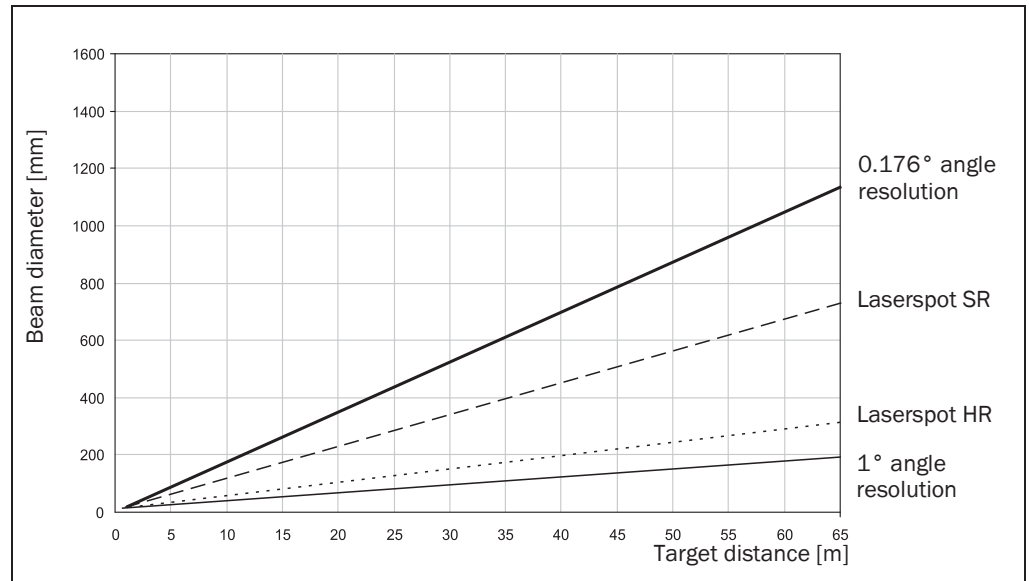

Fig. 13: Beam diameter and distance between measured points of LMS500 at 0 to 65 m (0 to 213.25 ft)
The diagram in Fig. 13 shows the beam diameter and the measured point spacing as a function of the distance from the LMS.
Example for angular resolution 0.167° (HR) in Fig. 13
- For beam diameter and measured point spacing as a function of the distance from the LMS see the diagram in Fig. 13.